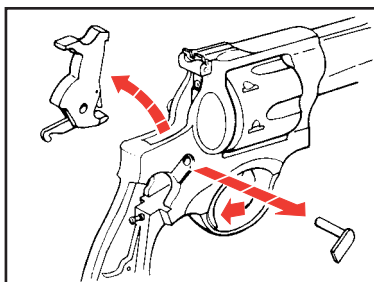

Figure 10
The information below applies only to those revolvers in which the Hammer Link (KH06900) is assembled to the hammer with the link hook pointing downward, as illustrated in Figure 10 below.
2. With the trigger pulled, remove the hammer pivot assembly and hammer (See Figure 10). At this stage of disassembly, return to the Disassembly instructions on page 13 and pick up with numbered paragraph 5.